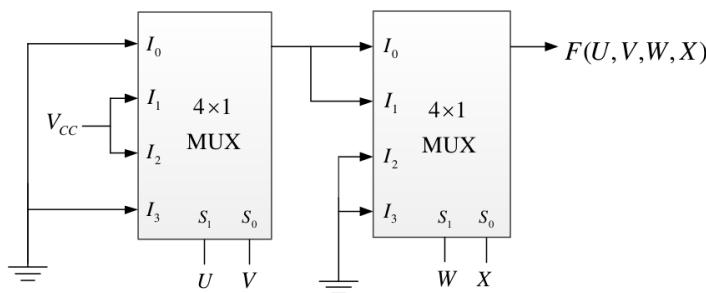

Fig. 3.13
25. Find the logic function implemented by the circuit given below in Fig. 3.13